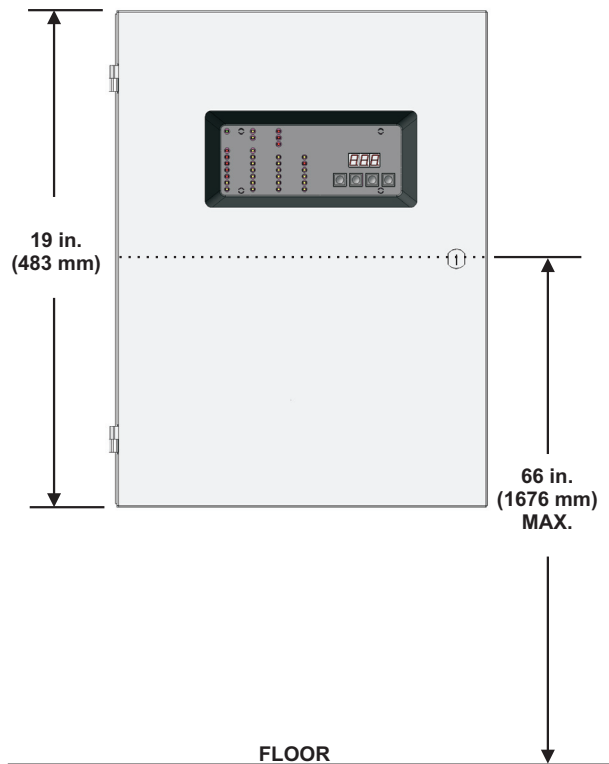
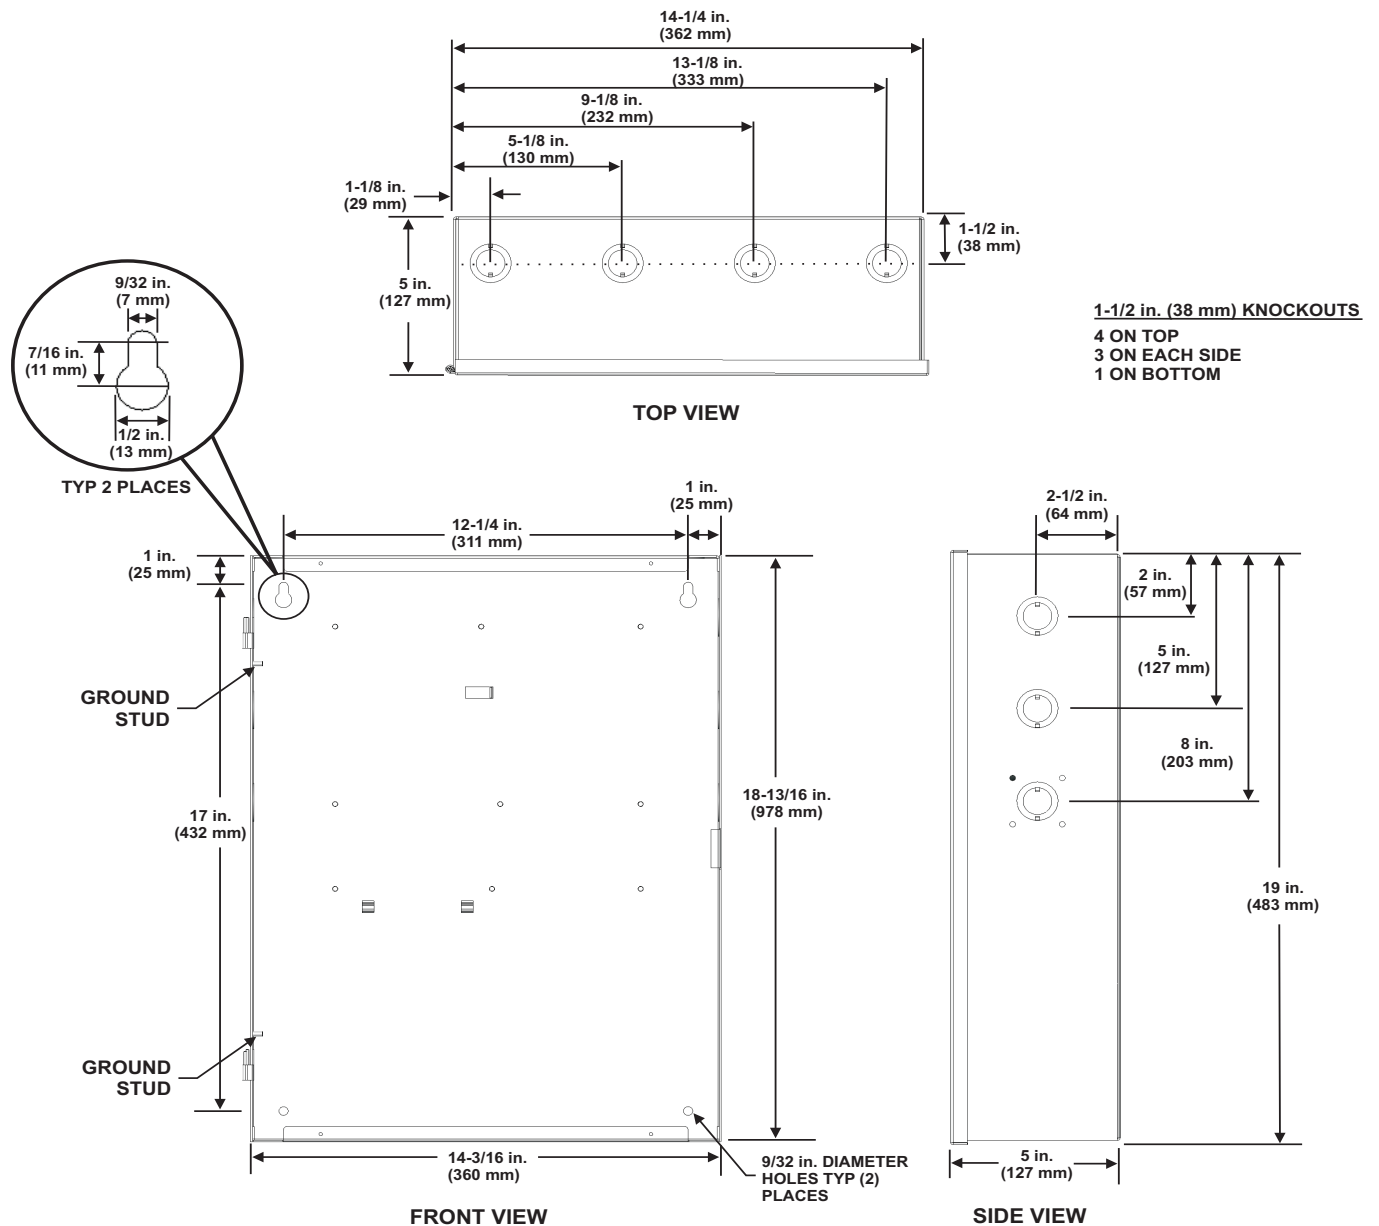

Figure 2-1. Installation Height Above Floor
Figure 2-2. Control Unit and Surface Mounting Dimensions
Locate the middle of the enclosure approximately 66-inches (1676 mm) above the floor so the control unit display is positioned at a convenient height for the operator. Refer to Figure 2-1. Figure 2-2 shows the control unit enclosure dimensions.
1. Mark and pre-drill holes for four mounting bolts using the dimensions shown in Figure 2-2. The installer must supply the mounting bolts (No. 10 or 3/16-inch (5mm)). There are two holes and two keyhole slots in the backbox that serve as a template for surface mounting. The type of hardware to be used is at the discretion of the installer, but must be installed in accordance with NFPA 70 (NEC).